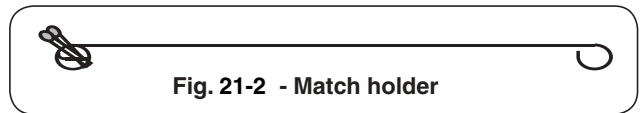

Fig. 21-2 - Match holder
2. Insert either a burning long-barrel butane lighter, a burning long-stem match, or a burning match held by a wire extension holder (Fig. 21-2) through the cooking grids to the burner (Fig. 21-3). For backburners, hold the flame against the perforated material of the backburner. For sideburners, hold the flame against the burner.